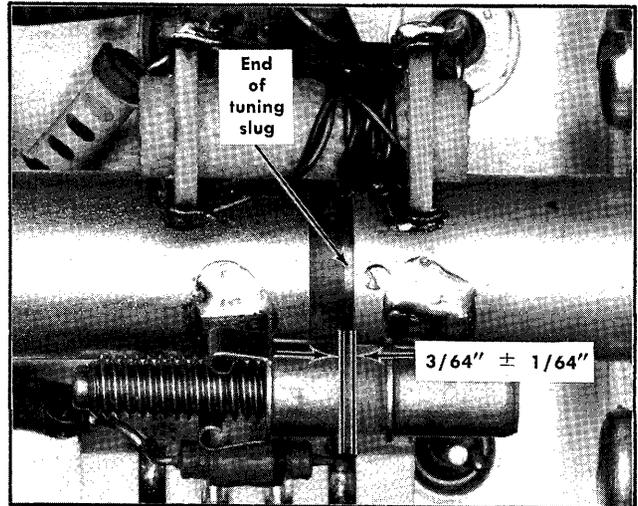

Fig. 4-21. Proper position of oscillator tuning slug when the dial reading is 36 mc.
n. Check the dial reading. If the dial does not read 36 mc, ± 460 kc, carefully adjust C49 (Fig. 4-21) so that the dial reading is proper when the signal is displayed on the screen.
r. Inside the oscillator, check to insure that the end of the tuning slug of the oscillator is positioned in the transparent plastic area of the sleeve no further than $\frac{1}{16}$ " and no less than $\frac{1}{32}$ " (Fig. 4-21). If not, turn the RF CENTER FREQ control until the tuning slug is within these dimensions. Once this has been done, move the metal tape of the RF CENTER FREQ dial so that the dial reads 36. The tape can be disengaged from the sprocket by slightly unrolling the tape from one of the rollers.